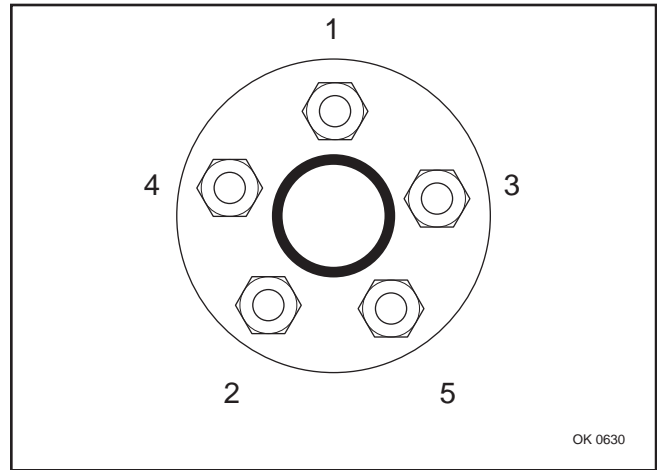

Figure 28
11. Tighten lug nuts using the pattern shown in Figure 28.